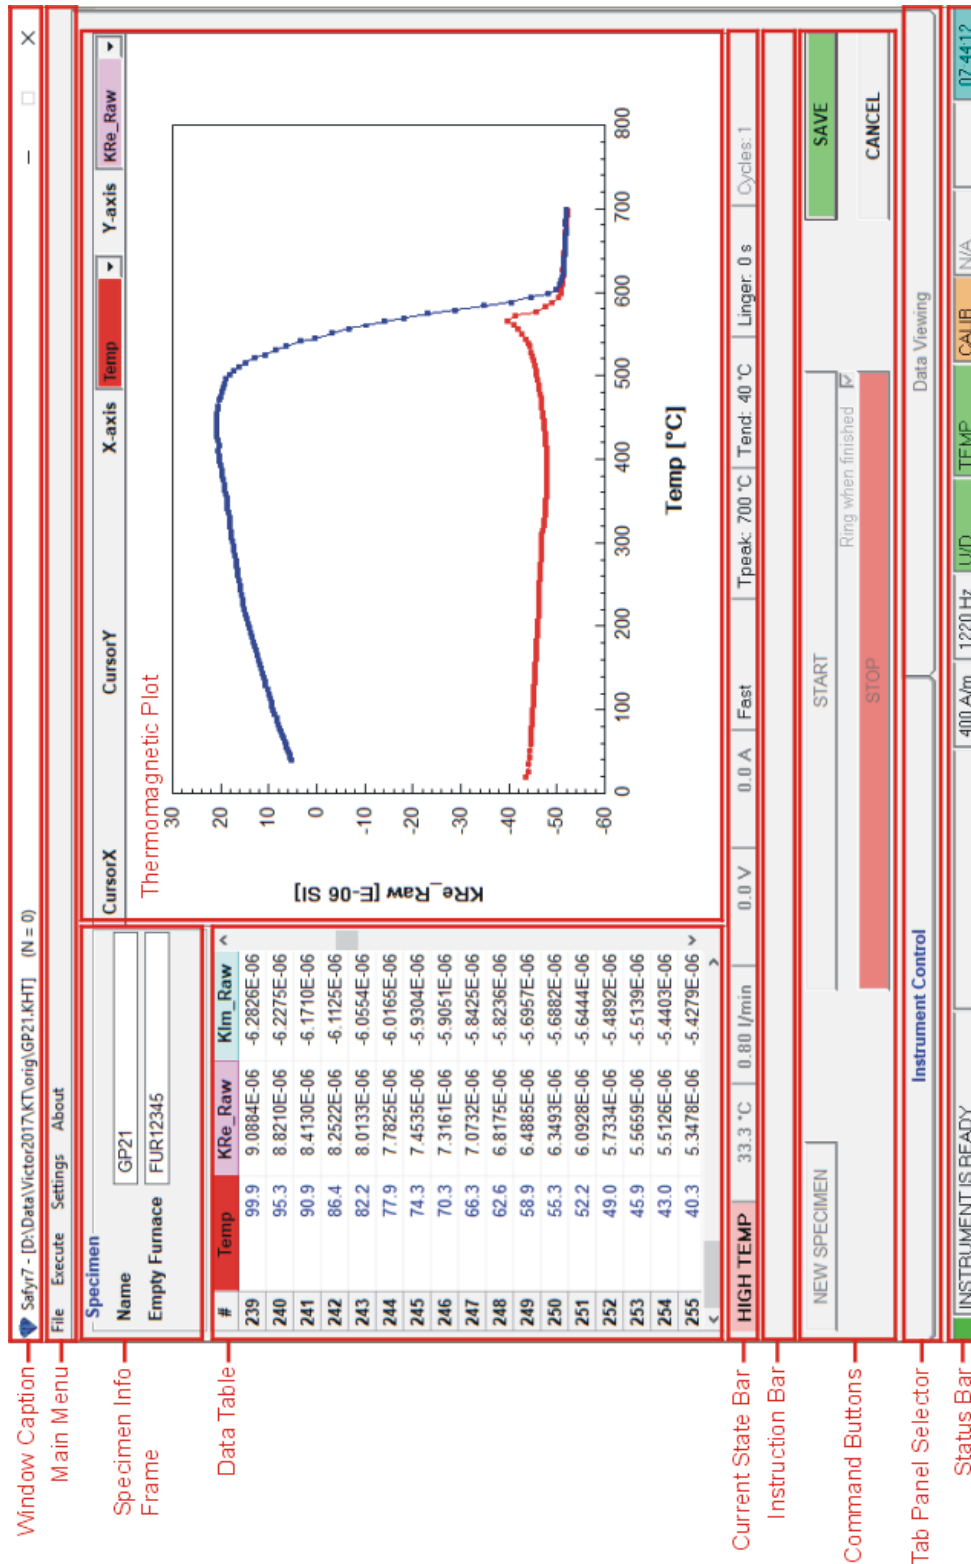

Figure 28: Instrument Control tab-panel controlling the High Temperature Mode.
The High Temperature Mode can be set in the **Instrument Settings** window (**Settings** > **Instrument Settings** or **F12**), see Section 3.1.1.6, Page 16. The **Safyr7** main window for the High Temperature Mode is shown in Figure 28.
8. The average temperature (from the pre- and post measurement temperature readings) and measured susceptibility values are appended to the **Data Table** and the **Thermomagnetic Plot** is continuously re-drawn (Figure 28).